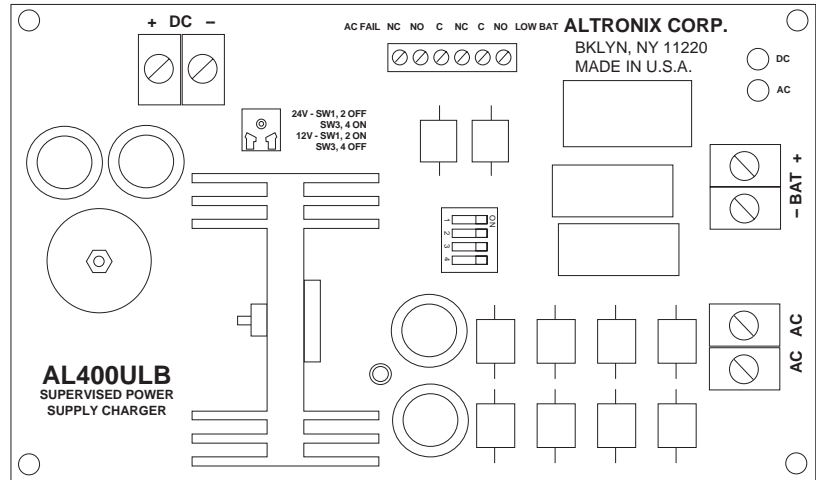

Fig. 1
2. Connect 28VAC 175VA (Altronix model #T28140) transformer to terminals marked [AC, AC]. (Fig. 1)
4. Connect devices to be powered to terminals marked [+ DC -] (Fig. 1).
- For Access Control applications, batteries are optional. When batteries are not used a loss of AC will result in the loss of output voltage. When the use of stand-by batteries is desired, they must be lead acid or gel type. Connect battery to terminals [- BAT +] (Fig. 1) as marked on the unit (battery leads included). Use two (2) 12VDC batteries connected in series for 24VDC operation.
- Connect supervisory trouble reporting devices to outputs marked [LOW BAT, AC FAIL] (Fig. 1) supervisory relays marked [N.O., C, N.C.]. Use 22 AWG to 18 AWG for AC Fail & Low Battery reporting.